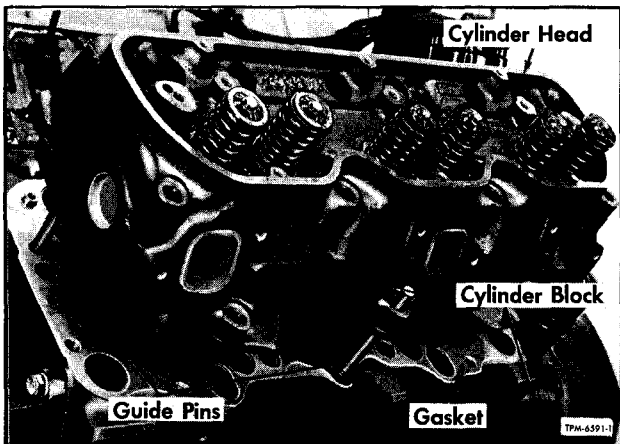

Figure 11—Installing Cylinder Head on V6 Engine
1. Check gasket surface on cylinder head and on cylinder block. Surfaces must be clean. Place cylinder head gasket on top of cylinder block with word "TOP" facing upwards. Dowels will locate gasket. If available, guide pins (fig. 11) may be temporarily installed in two cylinder head bolt holes to locate head as it is lowered into place.